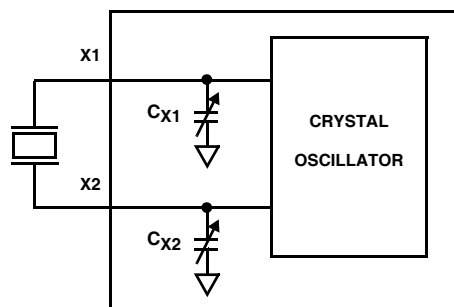

FIGURE 11. DIAGRAM OF ATR
12.5pF (default). C_{LOAD} is changed via two digitally controlled capacitors, C_{X1} and C_{X2}, connected from the X1 and X2 pins to ground (see Figure 11). The value of C_{X1} and C_{X2} is given by the following formula: